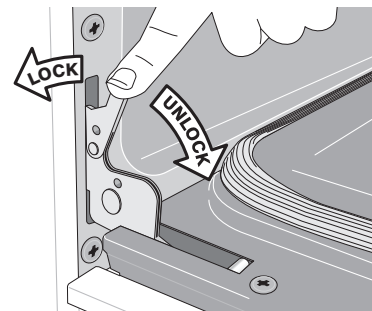

Figure 23: Door hinge locks
2. Pull the door hinge locks on both left and right door hinges down from the oven frame completely towards the oven door (See Figure 23). A tool such as a small flat-blade screwdriver may be required.
4. Push the door hinge locks up towards and into the oven frame on both left and right oven door hinges to the locked position (See Figure 23).